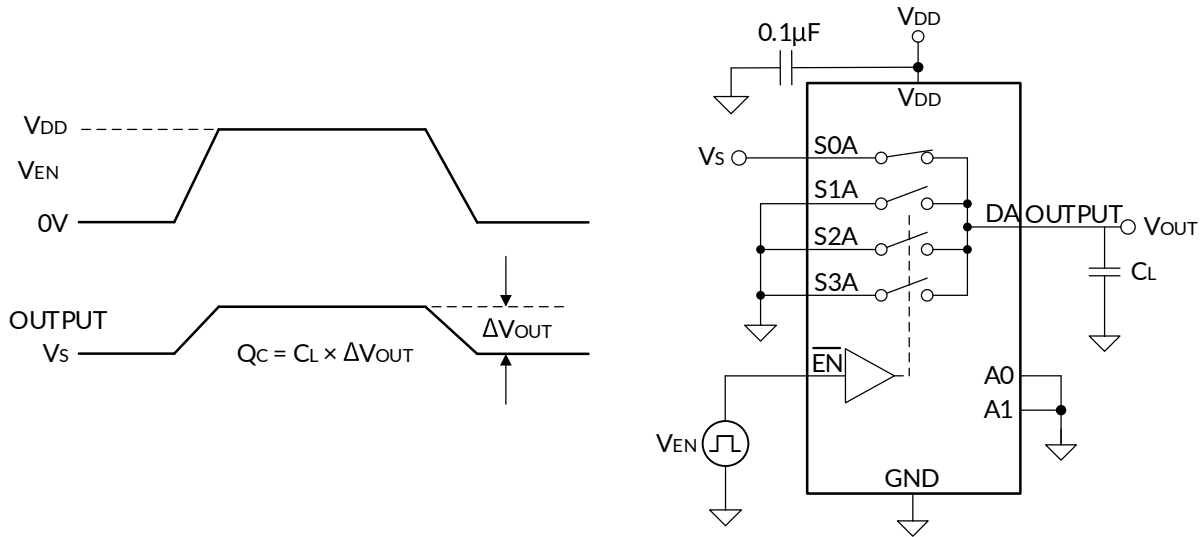

Figure 17. Charge-Injection Measurement Setup
The RMUX1309 device has a transmission-gate topology. Any mismatch in capacitance between the NMOS and PMOS transistors results in a charge injected into the drain or source during the falling or rising edge of the gate signal. The amount of charge injected into the source or drain of the device is known as charge injection, and is denoted by the symbol Q_C . Figure 17 shows the setup used to measure charge injection from source (S_x) to drain (D).